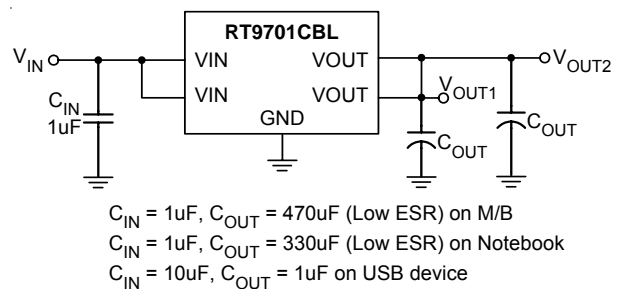
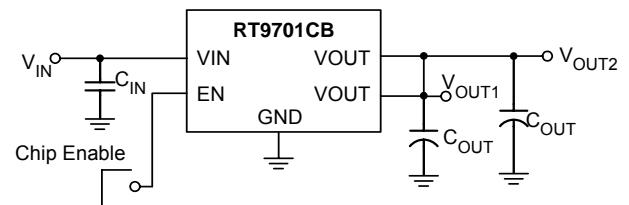

Figure 1. High Side Power Switch
Figure 2. High Side Power Switch with Chip Enable Control
- If the package is with dual VOUT or VIN pins, short both the same function pins as Figure 1 or Figure 2 to reduce the internal turn-on resistance. If the output power will be delivered to two individual ports, it is specially necessary to short both VOUT pin at the switch output side in order to protect the switch when each port are plug-in separately.